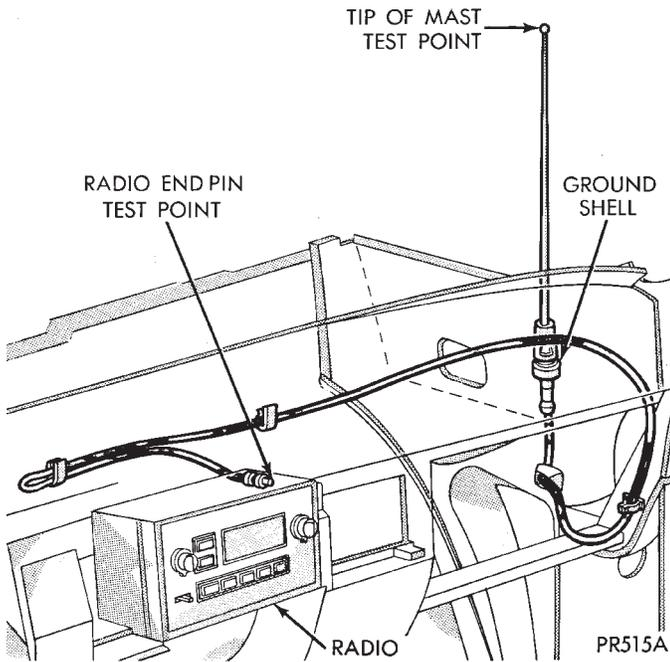

Fig. 9 Antenna Test Points
(1) Continuity should be present between the antenna mast and radio end pin of antenna cable plug (Fig. 9 and 10).